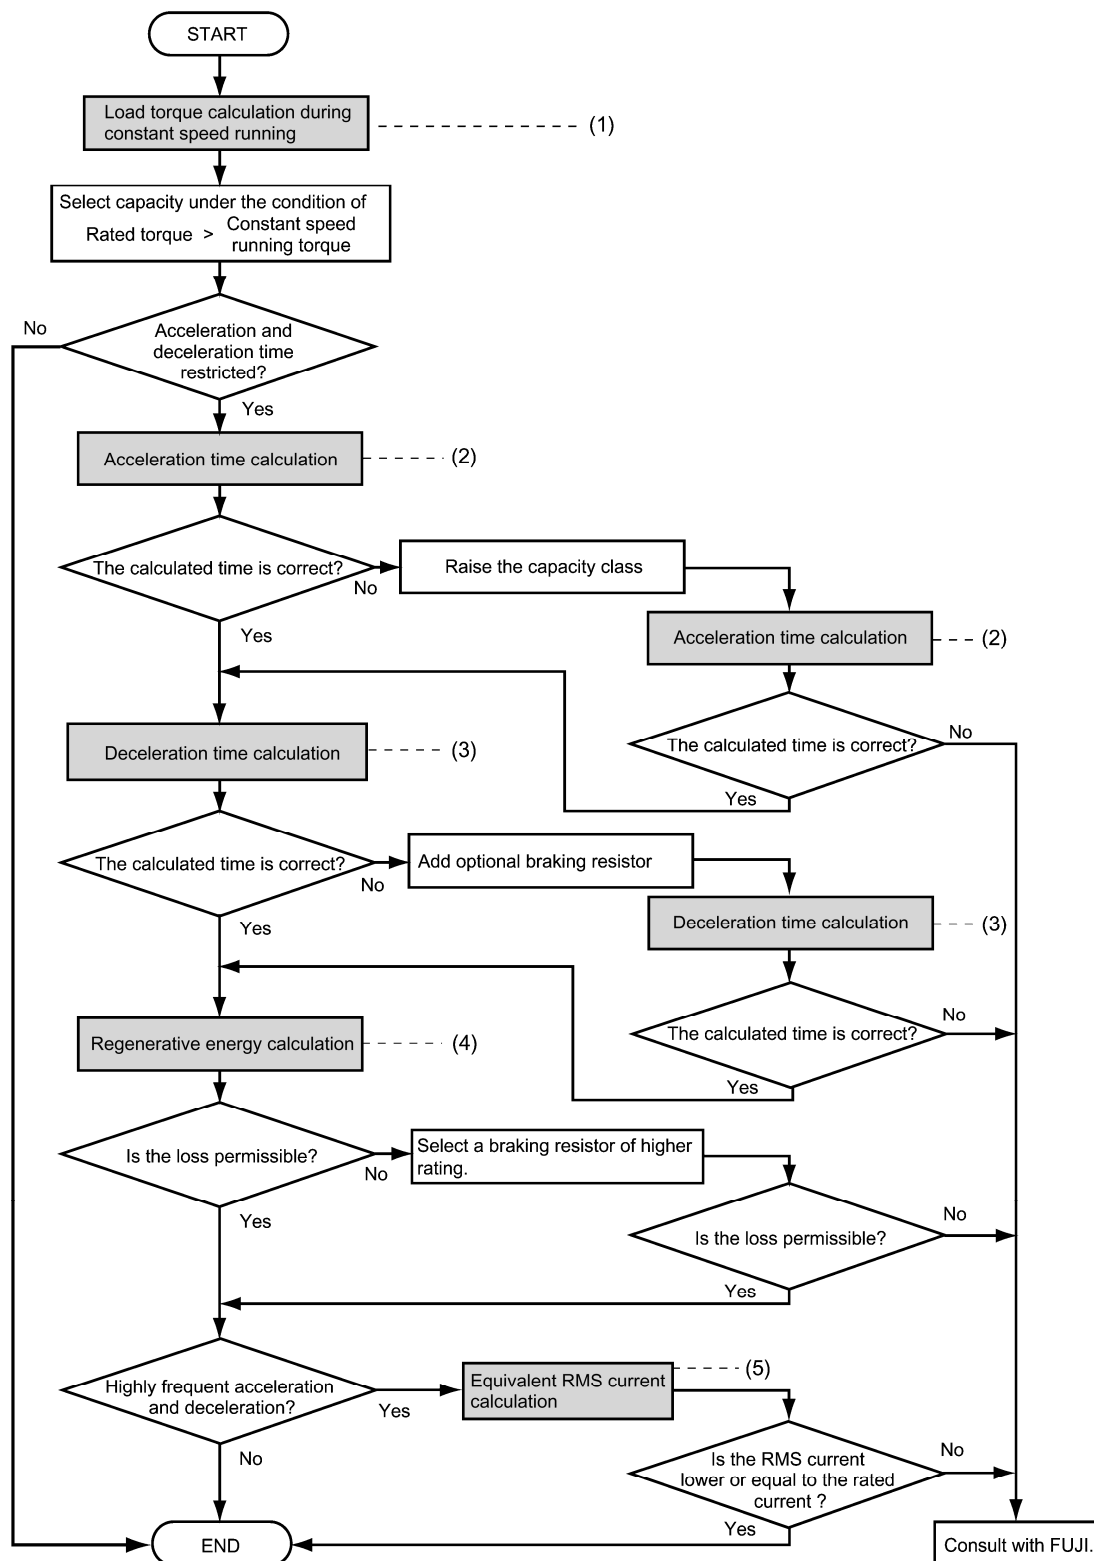

Figure 7.3 Selection Procedure
Figure 7.3 shows the general selection procedure for optimal inverters. Items numbered (1) through (5) are described on the following pages.